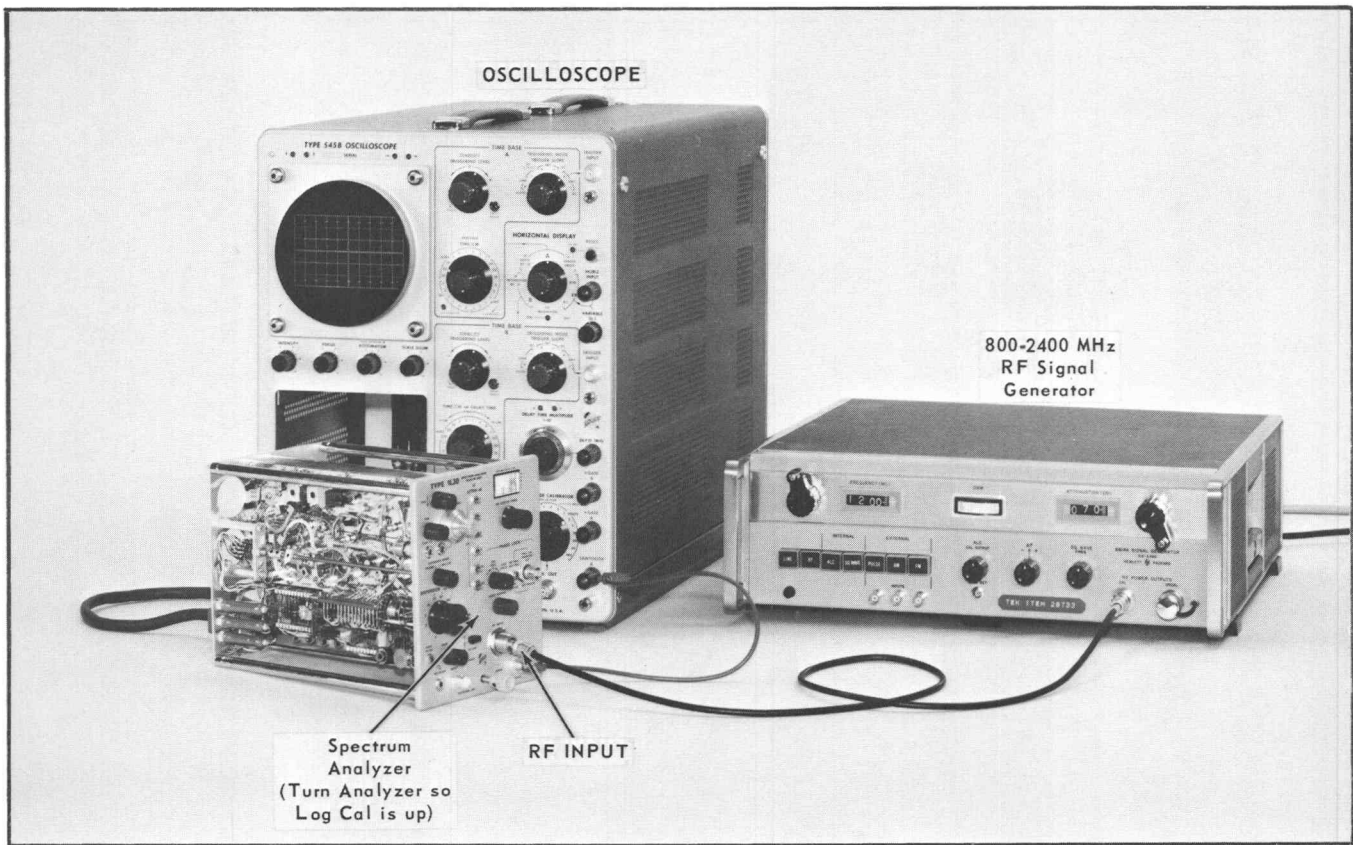

Fig. 6-14. Setup for adjusting Narrow-Band IF Amplifier (Step 8).
a. Connect the equipment as shown in Fig. 6-14. Terminating the 50 ohm coaxial cable at the RF INPUT connector with a 50 ohm 10:1 (20 dB) termination.